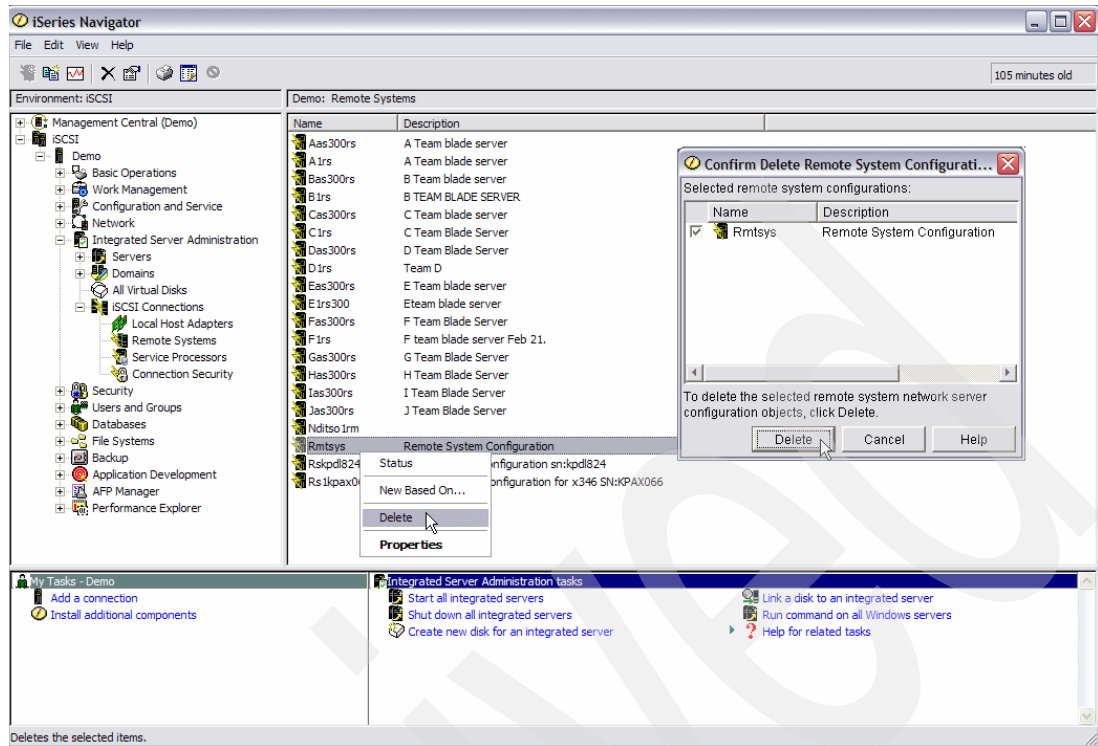

Figure 6-47 Delete Remote System configuration
- On the Confirm Delete Remote System configuration window (Figure 6-47 on page 193), select **Delete**.